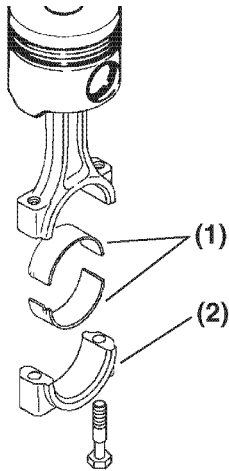

Figure 6-140
4. Reinstall the bearing inserts (**Figure 6-140, (1)**) in the connecting rod and cap.
6. Apply a light coat of clean engine oil to the rod cap bolts. Reinstall the connecting rod cap (**Figure 6-140, (2)**). Tighten the connecting rod bolts to the specified torque in two stages (1/2 then full torque). See *Special Torque Chart on page 6-25 for specifications*.